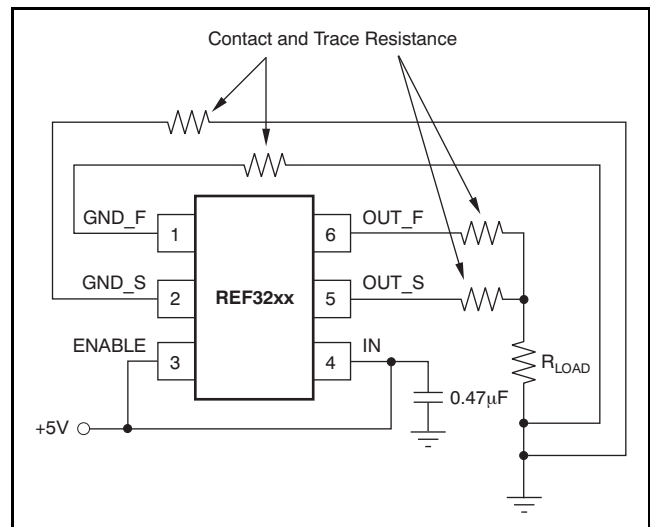

Figure 24. Accurate Load Regulation of REF32xx
Load regulation is defined as the change in output voltage as a result of changes in load current. The load regulation of the REF32xx is measured using force and sense contacts, as shown in Figure 24.
• Changed pin 3 in <a href="#">Figure 24</a> from SHDN to ENABLE (typo) .....	<a href="#">10</a>